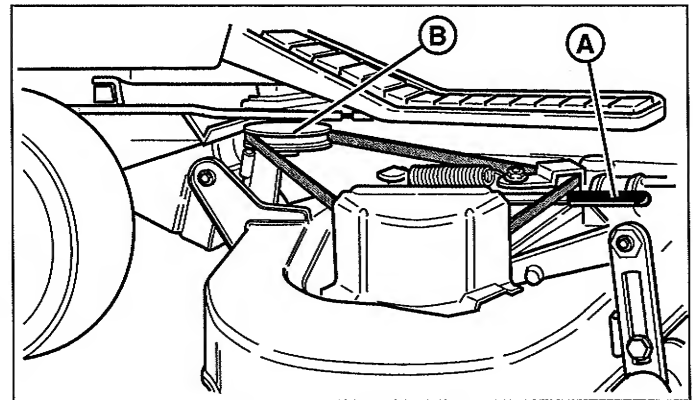

Figure 18. Removing & Installing Belt
- See Figure 18. From left side of tractor, use the idler arm (A) to relieve belt tension. Install belt onto the PTO pulley (B).